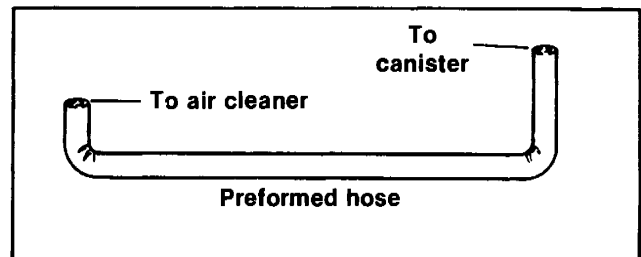

Figure 4-39. Preformed Hose Connections
1. Take small 0.190 ID hose (7) and push one end over fitting at top of canister labeled "tank". Lead hose to left downtube and secure with ty-wrap (3). Bring hose up to the bottom of the vapor valve. Push free end of hose over lower fitting on vapor valve.
3. Take 0.235 ID hose (8) and push hose through center cavity under gas tank. Bring hose around rear of carburetor, between throttle cables and on to purge fitting. Bring free end of hose down right frame tube to fitting on top of canister labeled "carb". Cut hose to length and push hose on fitting. Secure hose to frame with two ty-wraps.
4. See Figure 4-39. Take large diameter pre-formed hose and push end with short bend over fitting installed at back of air cleaner. Route hose between engine push rod and cylinder to canister as shown.